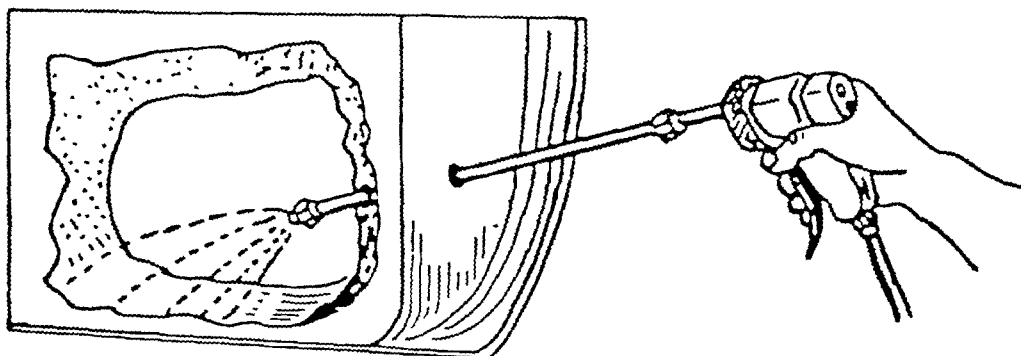

FIGURE 5 Spraying inside of door.
- m. Front and rear doors (see figures 5, 6, 7, 8)